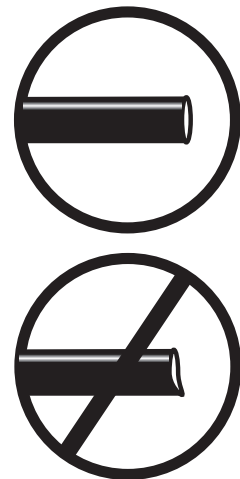

fig. 10
- a. Check the air line connection by deflating the spring and removing the line by pulling the collar against the fitting and pulling firmly on the air line. Trim 1" off the end of the air line. Be sure the cut is clean and square (see fig. 10). Reinsert the air line into the push-to-connect fitting.
2. If the preceding steps have not resolved the problem, call Air Lift customer service at (800) 248-0892.